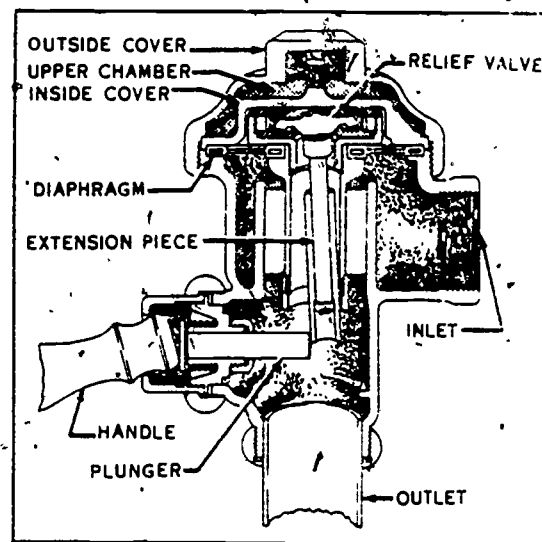

Figure 1-48. Cross section of a diaphragm type flushometer valve.
b. Diaphragm type flushometer valve. The diaphragm type flushometer valve, shown in figure 1-48, contains two chambers separated by a relief valve mounted on a rubber diaphragm. The upper chamber is directly connected to the main water supply by a bypass. The lower chamber is connected to a large diameter supply pipe, which is usually 1 inch or more in diameter. When the valve is operated, the relief valve is tilted to an open position, thus discharging the water from the dashpot chamber. The inequity of pressure then forces the diaphragm to lift and admit water from the distribution system into the water closet. Within a predetermined interval, a sufficient amount of water forces itself through the bypass to the